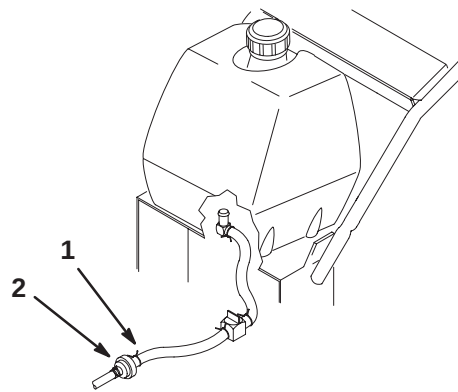

Figure 44
3. Squeeze the ends of the hose clamps together and slide them away from the filter (Fig. 44).